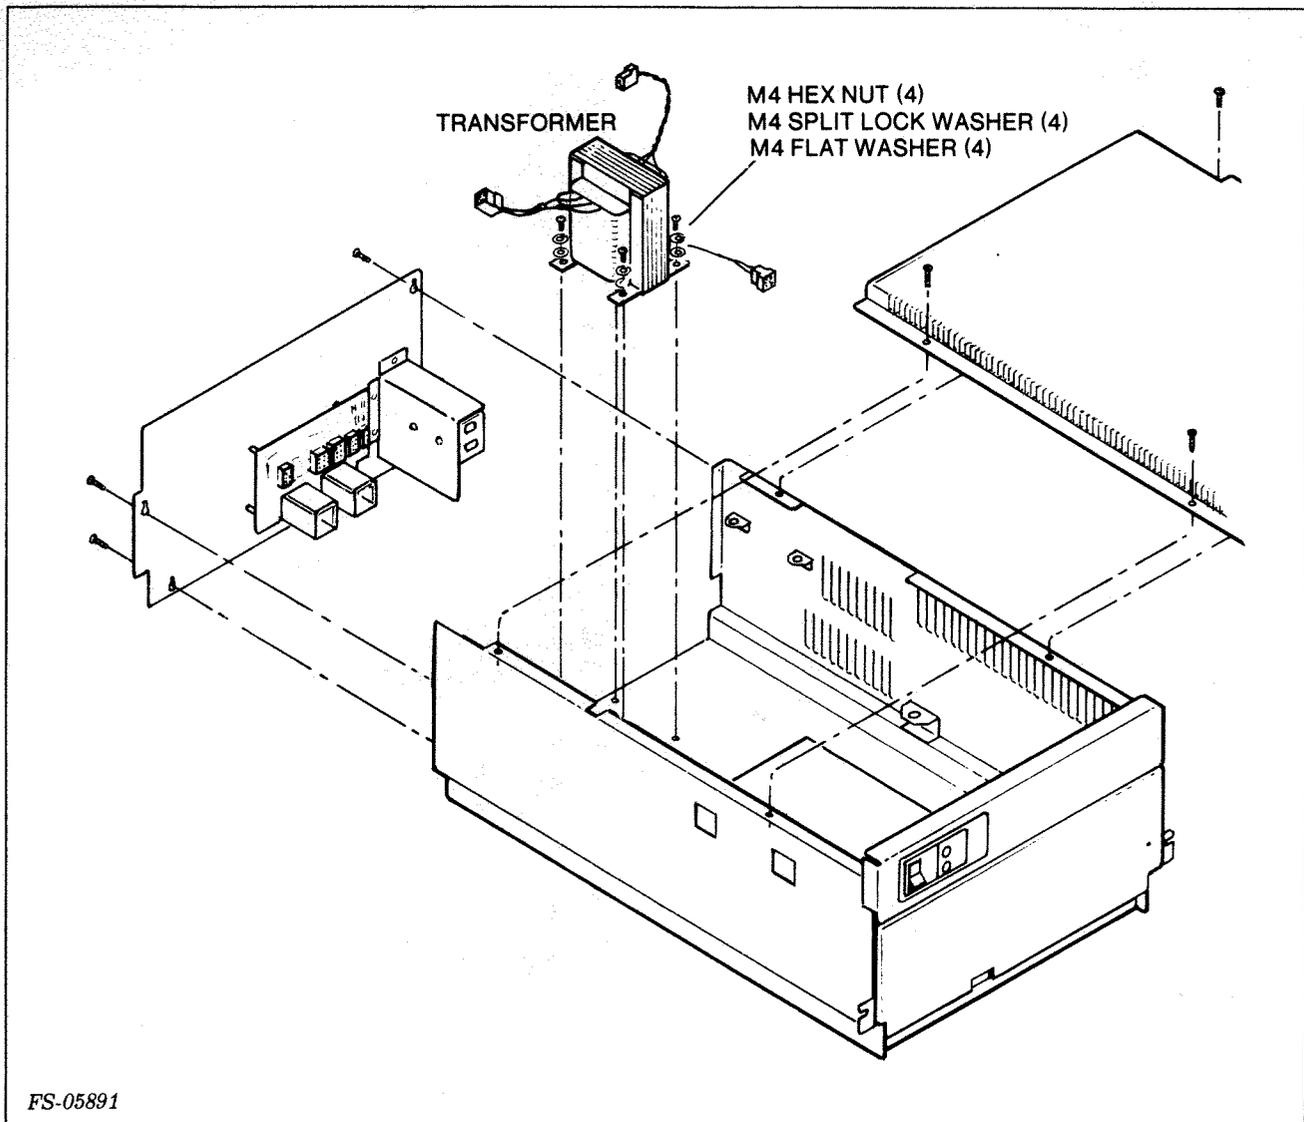

Figure 5-24. Transformer Removal
4. Locate transformer T1 (see Figure 5-24). It is located directly below the support bracket.